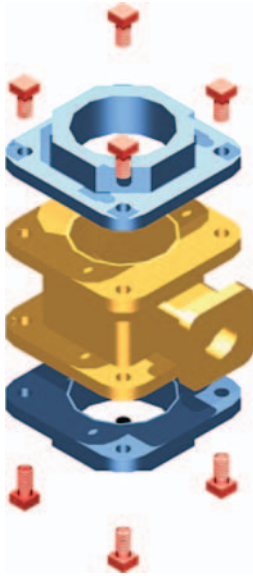

Fig. 17.11 Second example – UCS
Second example – UCS (Fig. 17.11)
19. Finally, move all the parts away from each other to form an exploded view of the assembly (Fig. 17.11).